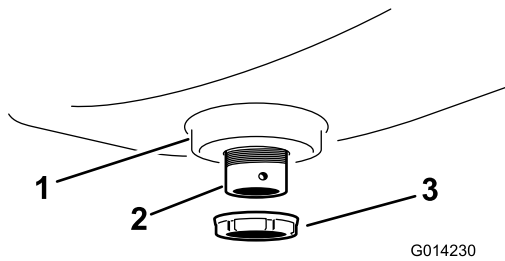

Figure 4
5. Secure the bulkhead fitting to the rinse tank with a plastic fly nut (Figure 4).